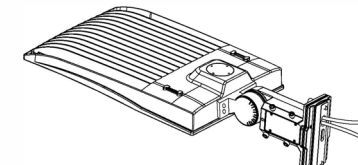

Figure 8
Step 2. Install the bracket on the fixture, tighten it. (Figure 8)